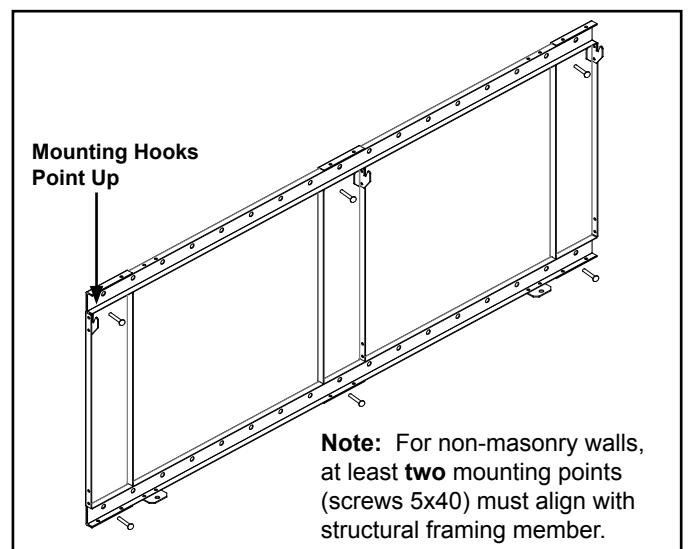
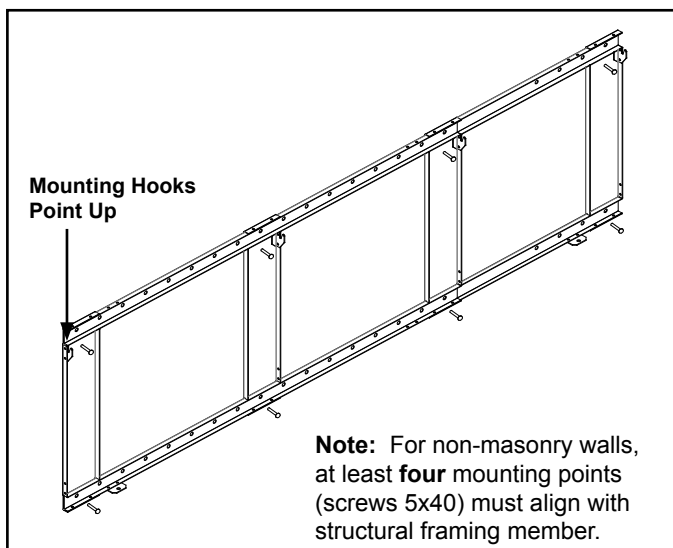
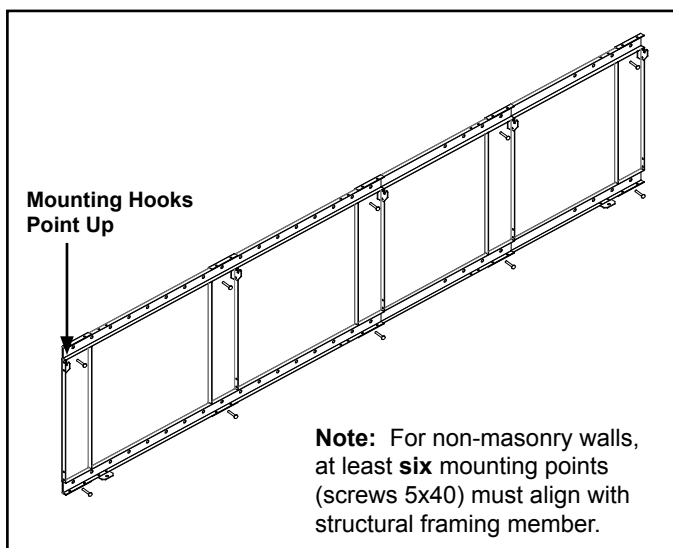

Figure 4.10 (SF-WM58) Bracket Attachment
Figure 4.11 (SF-WM70) Bracket Attachment
Figure 4.12 (SF-WM94) Bracket Attachment
- Orientate the bracket so that its mounting hooks are pointing up as shown in Figure 4.10 and 4.13.
- Orientate the bracket so that its mounting hooks are pointing up as shown in Figure 4.11 and 4.13.
- Orientate the bracket so that its mounting hooks are pointing up as shown in Figure 4.12 and 4.13.
- With mounting hooks pointed up, attach the bracket to the masonry anchors with 5 x 40 screws. See Figure 4.10 (SF-WM58), Figure 4.11 (SF-WM70) or Figure 4.12 (SF-WM94).